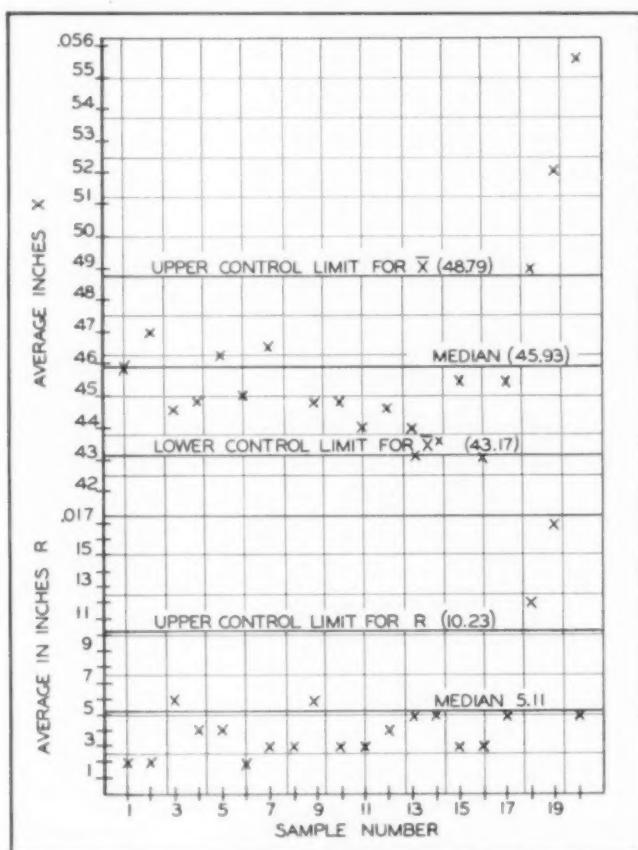
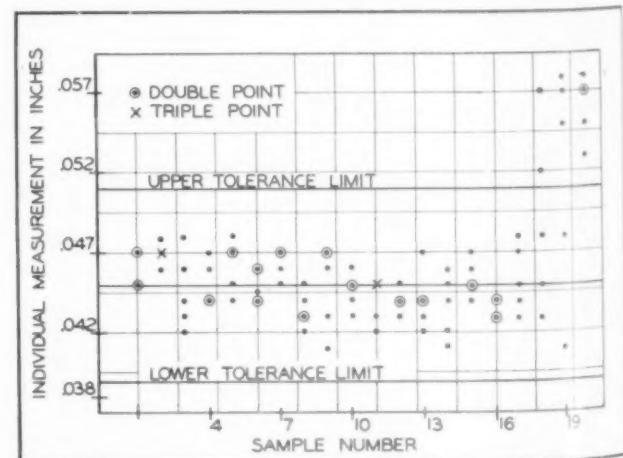

Fig. 4. Shewhart indicating individual measurement of values obtained as illustrated in Fig. 3, as well as the bar X and R chart as calculated.
Fig. 5. Measurement Values of Dimension "A" Along with Calculations of Limits After Correction
In a statistical control plan, the Shewhart control chart for both averages (bar \bar{X} or X) and range (R) is widely used. This type of chart is used to (1) determine the level of a quality characteristic, (2) determine possible variation, (3) determine consistency of performance. As an example, in the screw machine part illustrated in Fig. 3, a serious discrepancy in measurement A was found. Previous measurements were within the specified dimensional limits. Investigation revealed that the difficulty was due to a compression action during broaching of a new lot of steel. The amount of compression was approximately equal to the increase of thickness as noted in dimension A in Fig. 5. Graphically, the two conditions are illustrated in Figs. 4 and 6. In the former instance (Fig. 4), the individual measurement chart indicated 11 percent out of control; the bar \bar{X} chart indicated that samples 18, 19 and 20 were out of control; and the R chart for range indicated that 18 and 19 were out of control. As a general trend, both the average and range were on the low side of the control bracket. Measure-